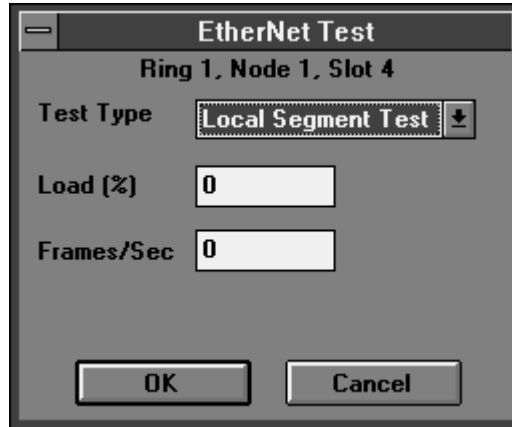

Figure 3-6. EtherNet Test
4. Select OK to start the test (refer to Figure 3-6).